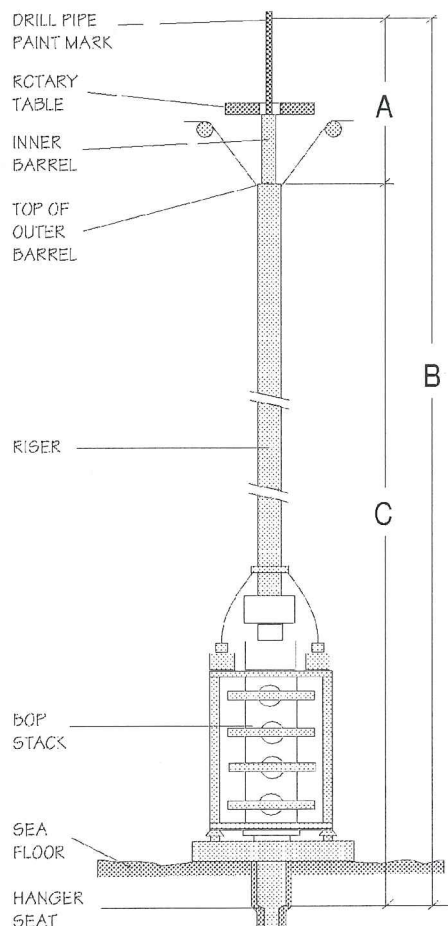

Figure 21. Determining the Exact Location of the Hanger Seat
- b. Measure from the landing shoulder on the Casing Hanger to a distance on the landing string equal to dimension "B." Refer to **Figure 21**.